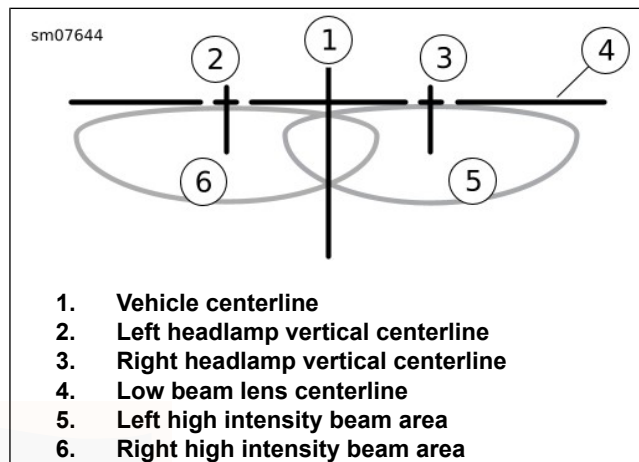

Figure 89. Headlamp Beam Pattern: Dual LED
- b. See Figure 89. The headlamps are aligned when the light beam hot spots are located at or below line (4) and centered on lines (2, 3).
5. See Figure 89. Cover the right headlamp. Adjust left headlamp so the top of the high intensity zone (6) is at or below horizontal line (4) and centered under the left centerline (2).
6. Cover the left headlamp. Adjust right headlamp so the top of the high intensity zone (5) is at or below horizontal line (4) and centered under the right centerline (3).